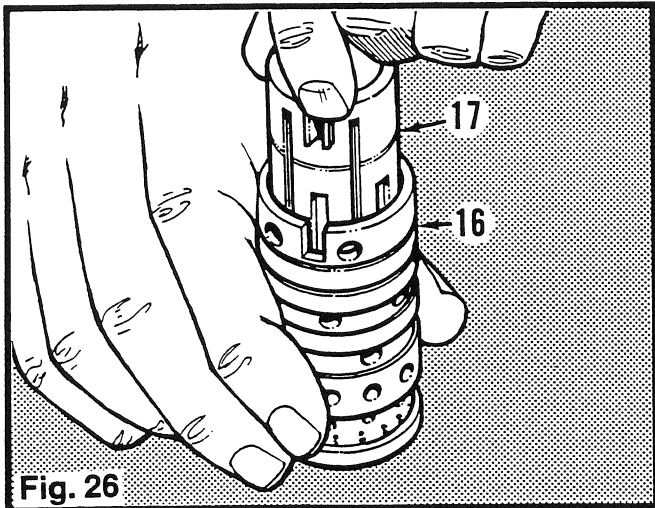

Fig. 26
4. Apply lubricant to the spool (17) and rotate it as you install it in the control sleeve (16). (Fig. 26) Remember, the fit of the control components is critical and can be affected just by the heat from your hands.